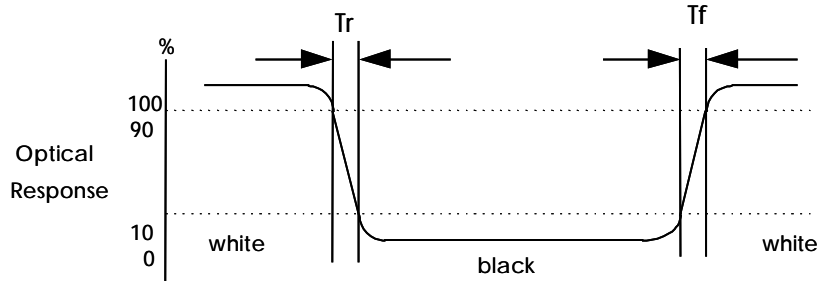

FIG.2. Measuring method for Contrast ratio, surface luminance, Luminance uniformity, CIE (x, y) chromaticity
Note 1. Contrast Ratio(CR) is defined mathematically as For more information see FIG 2.:
Note 2. Surface luminance is the LCD surface from the surface with all pixels displaying white. For more information see FIG 2.
Note 3. The uniformity in surface luminance , δ WHITE is determined by measuring luminance at each test position 1 through 5, and then dividing the maximum luminance of 5 points luminance by minimum luminance of 5 points luminance. For more information see FIG 2.